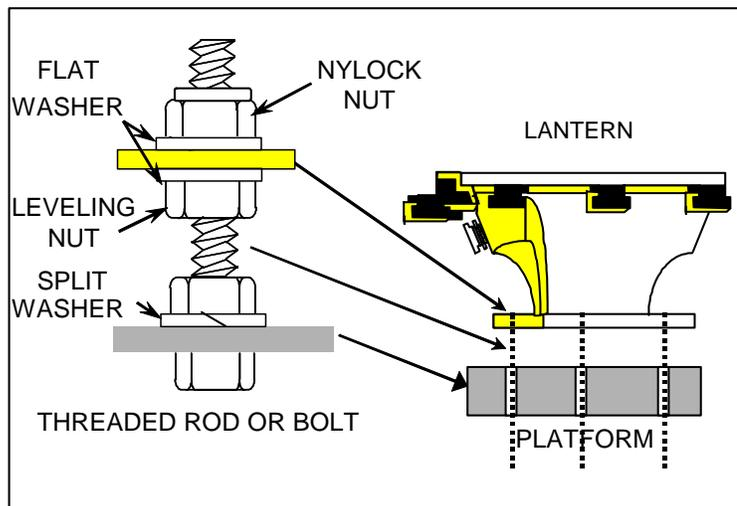

Figure 3-19
- a. Install three 1/2" threaded rods or bolts on the platform as shown in Figure 3-19. Add the leveling nut and flat washer at this time.